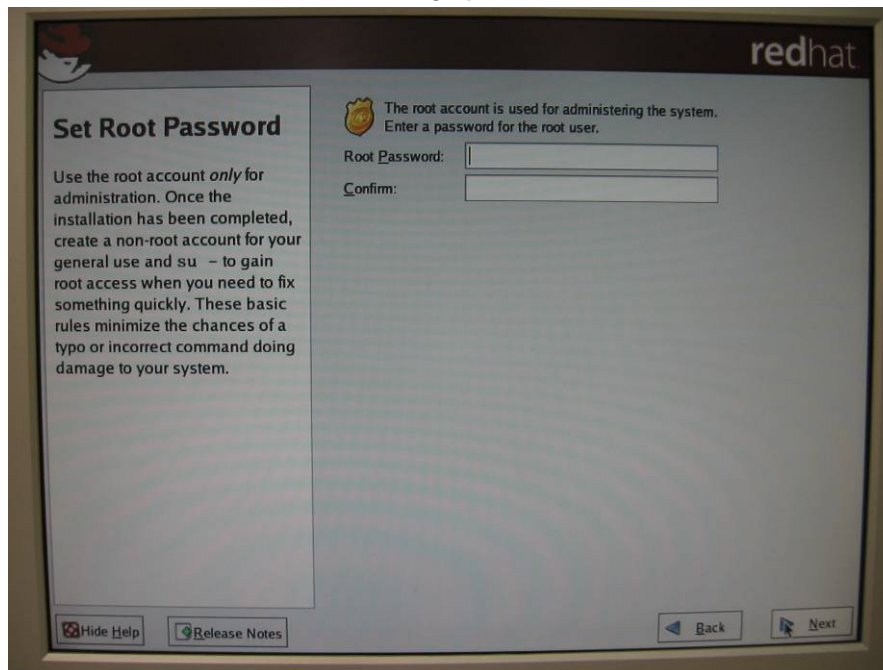

Figure 5-17 Set Root Password
6. No changes for USB Configuration. (Figure 5-17)